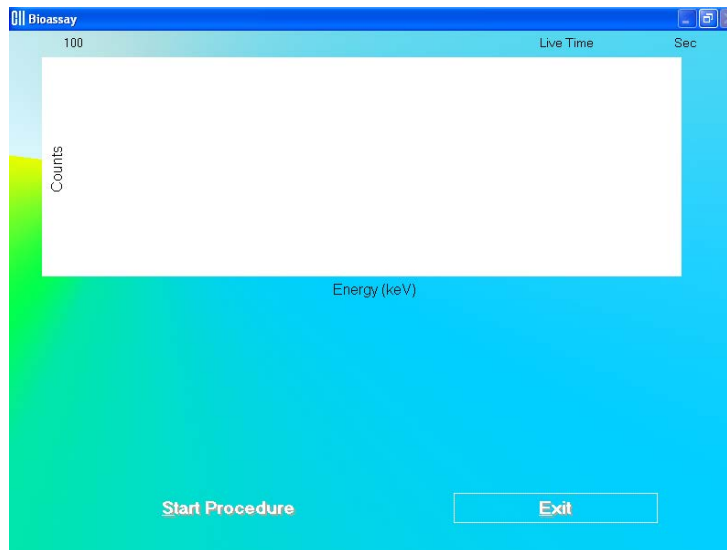
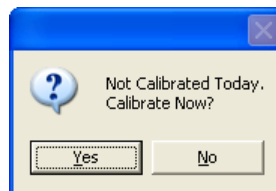

Figure 11-18
Figure 11-19
2. To begin the measurements, click the **Count** button. The Main Bioassay Measurement screen appears as shown in Figure 11-18.
Note: If calibration has not been performed, you will be prompted with the screen as shown in Figure 11-19. After the calibration is complete, the program will return to the Schilling Test measurement screen shown in Figure 11-18.
Click the  button or press the *Y* key to exit the measurement cycle. The Main Bioassay Measurement screen appears as shown in Figure 11-18. To restart the measurement for the selected Staff Member, click the  button or press *Alt+S*.